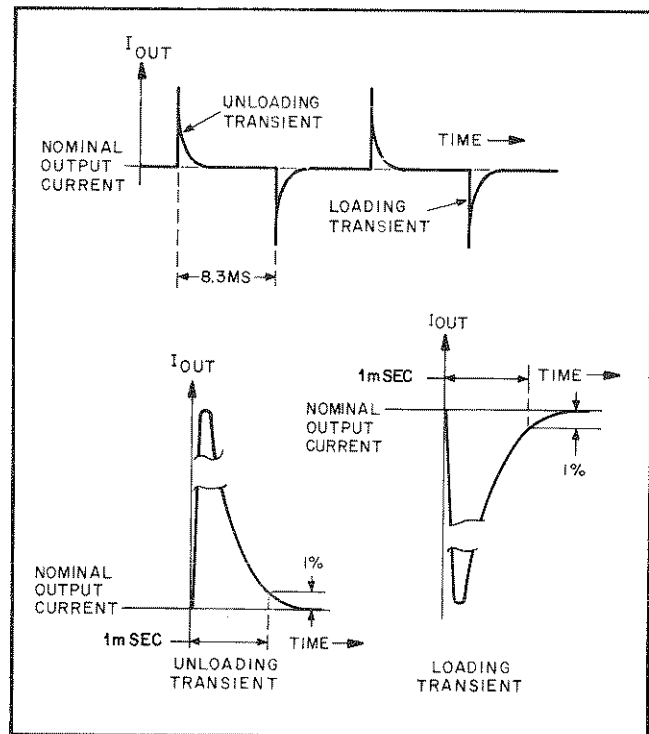

Figure 5-6. Load Transient Recovery Time, Waveforms
- Adjust 25K potentiometer until stable display is obtained on oscilloscope. Recovery waveform should be within tolerances shown in Figure 5-6. Output should return to within $\pm 100mV$ of nominal value in less than 1 millisecond.